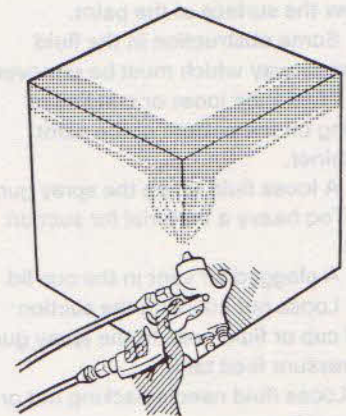

Figure GL4. Method of spraying an outside corner. (Courtesy DeVilbiss)
- When spraying an outside corner such as the edge of a door frame, or an inside corner, such as the bottom of a boot or footwell, use Figures GL4 and GL5 as guidelines.